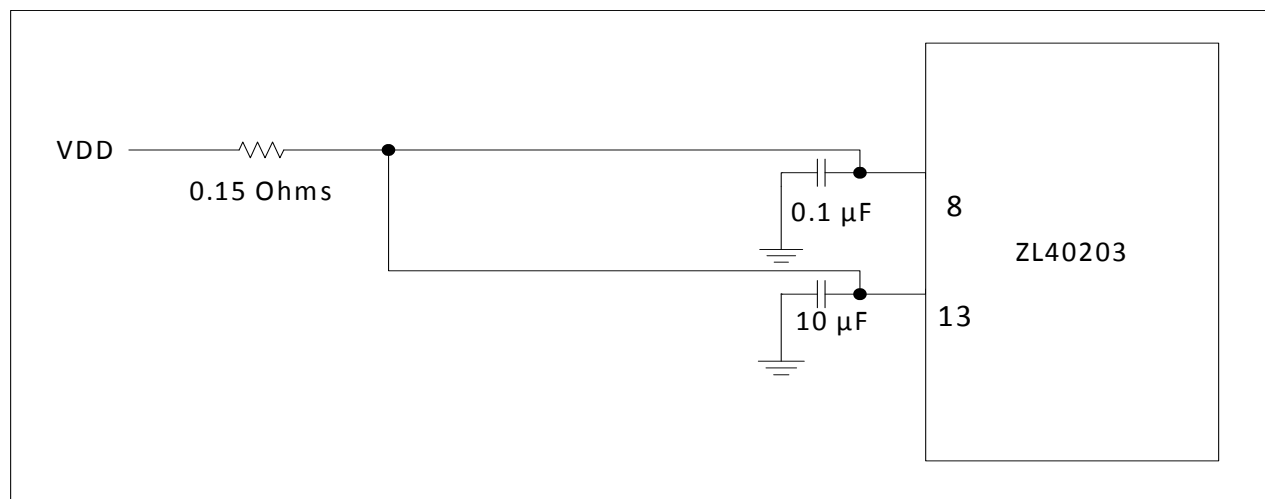

Figure 19 - Decoupling Connections for Power Pins
For optimal jitter performance, the device should be isolated from the power planes connected to its power supply pins as shown in Figure 19.
- a 0.15 ohm resistor is recommended for the filter shown in Figure 19
The power nets in Figure 19 can be implemented either as a plane island or routed power topology without changing the overall jitter performance of the device.